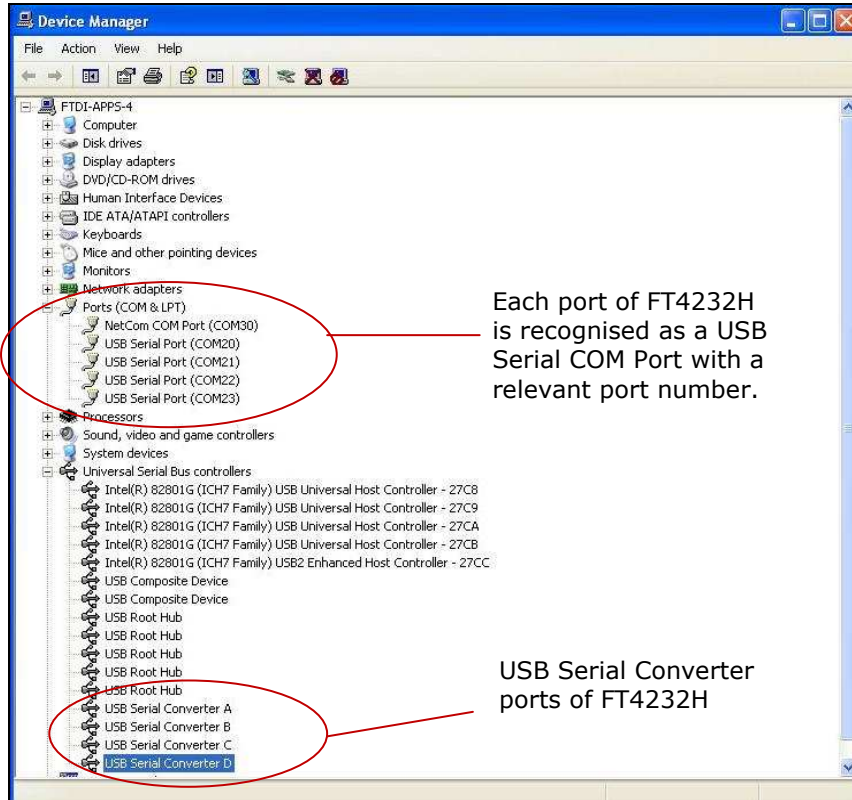

Figure 7.6: Device Manager Screen
- To verify that the drivers have been installed successfully, open the Device Manager located in "Control Panel\System" then select the "Hardware" tab and click "Device Manger") and select "View > Devices by Connection". Each FT4232H port should appear as a "USB Serial Converter" under the "USB Serial Bus Controllers". Further under the "Ports" section four "USB Serial Ports" should be listed, as per Figure 7.6.